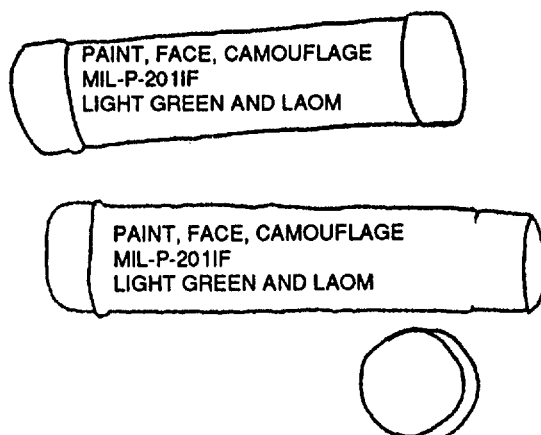

Figure 2-52. Camouflage Stick
- ad. Camouflage Stick. The camouflage stick (Figure 2-52) is used to camouflage exposed skin by breaking shiny reflections of the skin and darkening skin tones. Follow instructions on the container.